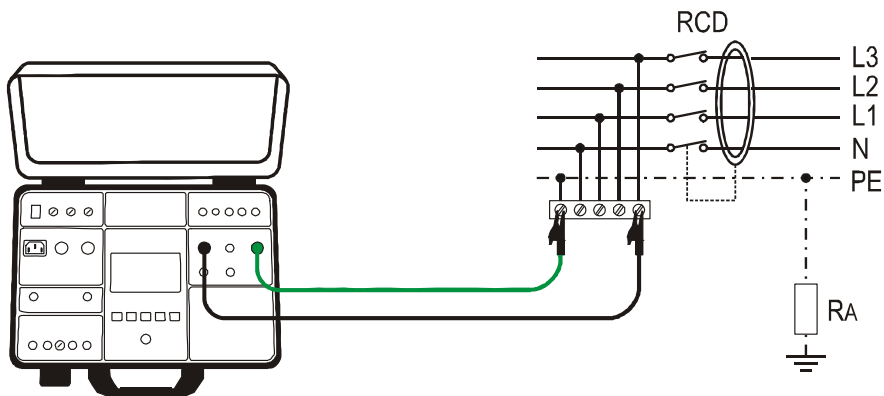

Figure 27: Connection of test leads to tested wiring for LOOP/L/PE measurement
- 5) Carry out the measurement by pressing the **START/STOP** button. Test result will be displayed after elapsing measurement time in green colour equipped with green  symbol and with beep-beep sound if it is lower than or equal to limit value (see the explanation of limit value above). If the result is higher than limit value, then it will be displayed in red colour equipped with red  symbol and with longer beep sound. See the display outlook with test result on the figure 27.